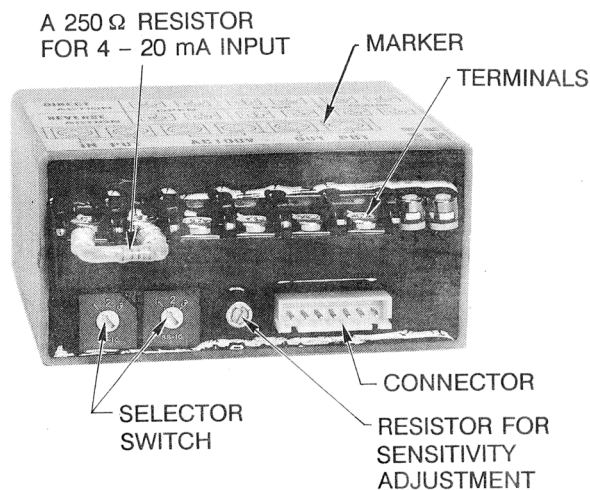
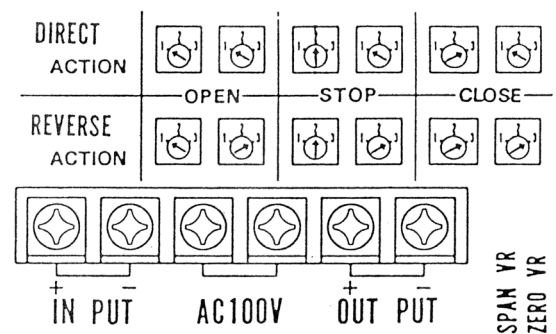

Fig. 6-3. Bottom of Control Unit
Fig. 6-4. Marker on the Control Unit Front
- (3) Fully push down the valve stem until the valve plug is seated on the valve seat.
- (4) Set the ZERO ADJ potentiometer to an approximate center position of its full adjustment range, from the terminal block section of the actuator.
- (5) Apply to the actuator a control signal corresponding to the fully closed position (20 mA DC for the direct action type or 4 mA DC for the reverse action type).
- (6) Connect the actuator stem to the valve stem with the stem connector. For this connection, let the threads of the stems engaged and securely tighten the connector with the hex bolt.
- (7) Align the zero position of the scale plate installed on the yoke to the pointer installed on the stem connector. To do this, slide the scale plate by loosening its fixing-screw.
- (8) Apply to the actuator a control signal corresponding to the full open position (4 mA DC for the direct action type or 20 mA DC for the reverse action type).
- (9) Check that the pointer indicates the full span position of the scale. Adjust the pointer to this position with the SPAN ADJ potentiometer of the controller, from the terminal block section.
- (10) Repeat the procedures of (5), (8) and (9) until both zero and span requirements are met at the same time.
- (11) By applying a control signal of 20.1 - 20.4 mA DC for the direct action type or 3.9 - 3.6 mA DC for the reverse action type, check that the pilot lamp illuminates indicating that the valve plug is seated on the plug seat. If the lamp is left unlit, further adjust the signal in the closing direction. When the lamp is lit, readjust the zero and span. If the lamp is still left unlit even by varying the signal, remove the stem connector and then start readjustment from Item 2.
- (12) After the above adjustment and check are over, cut off the input signal and check that the control valve is driven into the fail-safe action mode as described in Section 6-2. (Refer to Section 2-3 (1).)
- (13) If hunting occurs due to unstable process condition, or if the control signal varies significantly, adjust the sensitivity for the purpose of damping (See Fig. 6-3.). The adjustment differs depending upon the situation although usually not required.
- (14) The sensitivity is factory-set to 0.5 %. Lower the sensitivity when controller's output varies remarkably.
The safer direction may be toward the fully closed position (CLOSE mode), full-open position (OPEN mode), or to stop in the currently existing position (STOP mode). Any one of these mode is selectable with the selector switches located at the bottom of the control unit. The location of the selector switches is shown in Fig. 6-3. The relationship between switch setting and fail-safe mode is as shown in Fig. 6-4 and Table 6-1.